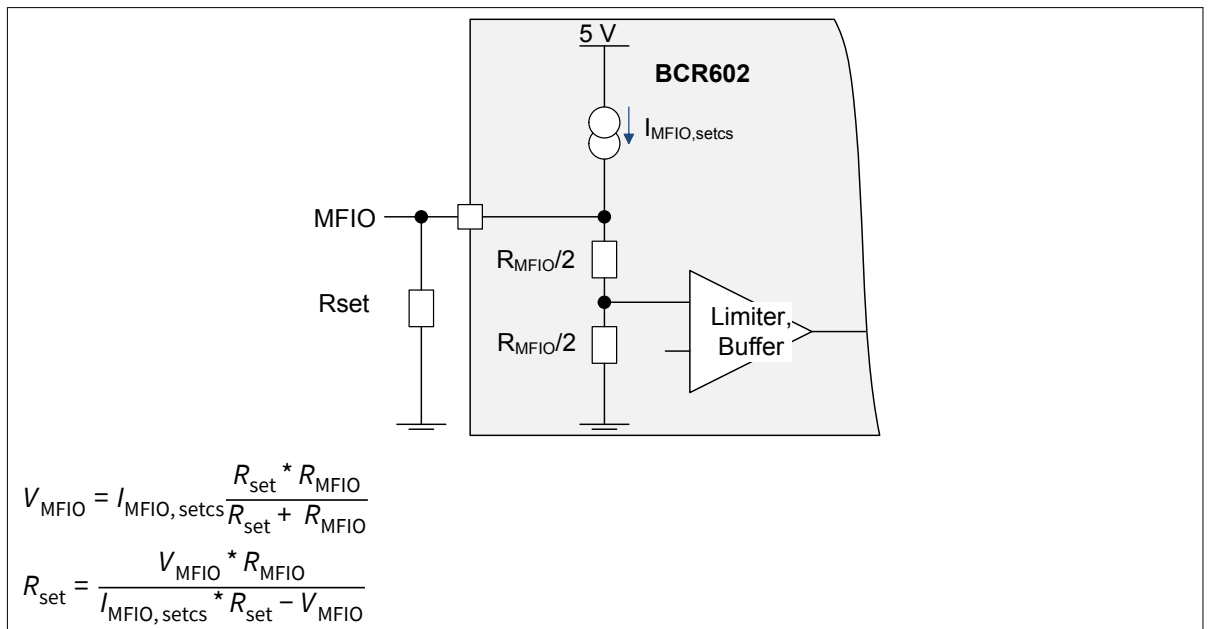

Figure 5 R_{set} dimensioning for resistor dimming
3. For resistive dimming using R_{set} and internal MFIO current, the internal pull-down has to be taken into account. For proper dimensioning refer to **Figure 5**.